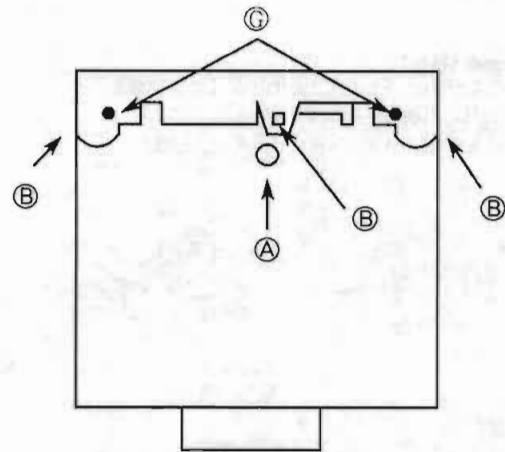
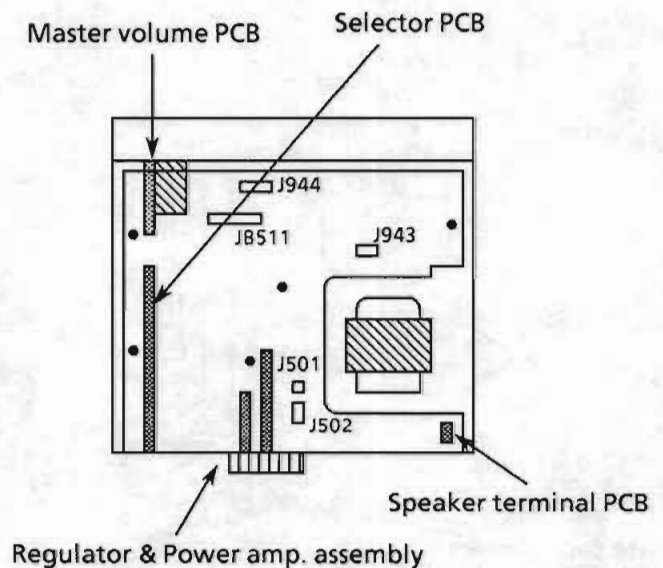

Figure 1 Bottom view
Figure 3 Top view of the unit without the CD chassis base
3. Remove the screw ① and pull the tray the front to remove it.
4. If the power can not be turned on due to any malfunction, insert a long filips driver to the hall ② to turn the screw to move the tray out (Figure 1).
4. Disconnect the flat wire J943, JB511 and J944 (Figure 3).
5. Remove the 2 screws ④ fixing the front panel assembly.
6. Release the hooks ⑤ and remove the front panel assembly (Figure 1).
5. Remove the master volume PCB, selector PCB, speaker terminal PCB & Regulator & Power amp. assembly (Figure 3).
6. Disconnect the flat wire J501,502 (Figure 3).